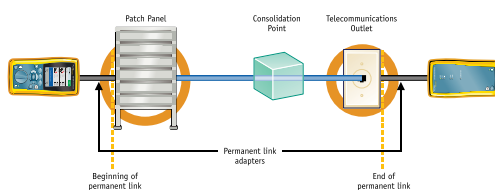

Figure 1: Permanent Link Model
Note that the configuration of this test link is unusual. The recommended Permanent Link configuration ends in a patch panel on one end and the TO at the other end with optionally a consolidation point (CP) (connection) no less than 15 m from either end, as depicted in figure 1. In this regard, the diagnostic depicted in figure 5a is also correct. This Permanent Link contains one more connection than usual or than recommended. We know, however, that after replacing the defective patch cord with a good one, this link, including the connector, normally meets the Class E permanent link test.